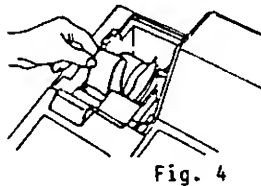

Fig. 4
4. Insert the paper end into receipt inlet as holding the **RF** key pushed down (Fig. 4).